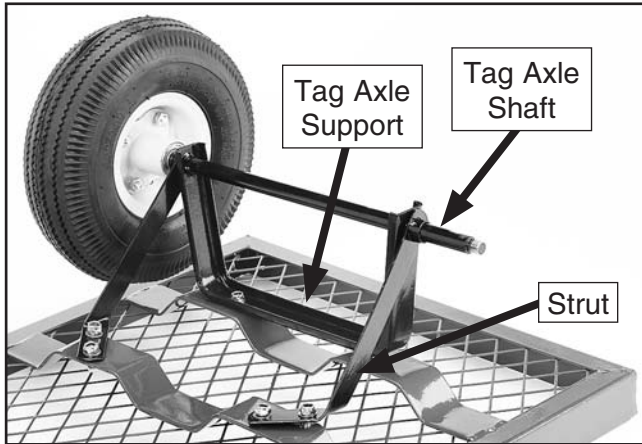

Figure 2. Tag axle and wheel installation.
1. Slip the struts onto the axle shaft in the position shown in **Figure 2**, and secure the struts and tag axle support to the frame with six M8-1.25 x 18 hex bolts, 8mm flat washers, and M8-1.25 locking nuts.
2. Slide two wheels onto the axles, and secure each wheel to the axle with a 12mm flat washer, 12mm lock washer, and the M12-1.75 acorn nut (**Figure 2**).